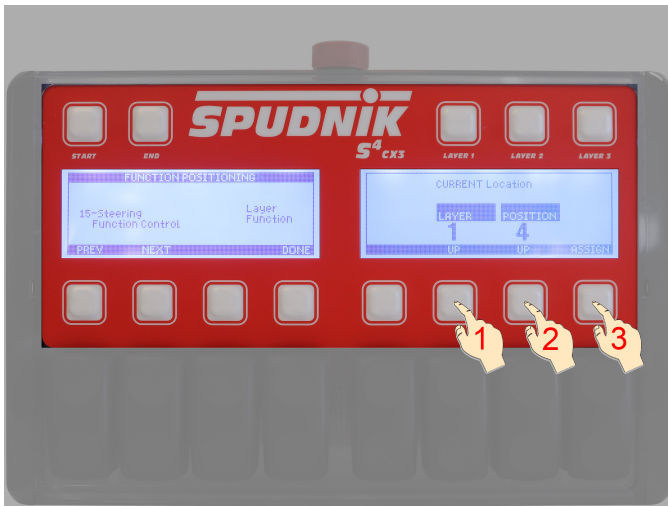

Figure 16
- Press soft key 6 (*UP*) to scroll to *LAYER* variable 1. (See Figure 16)